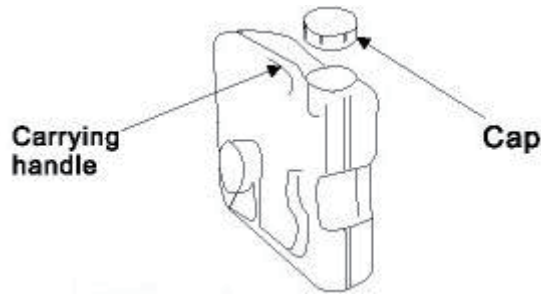

figure 9
- ❖ When removing the cap, make sure that the waste holding tank is in a vertical position (figure 9).